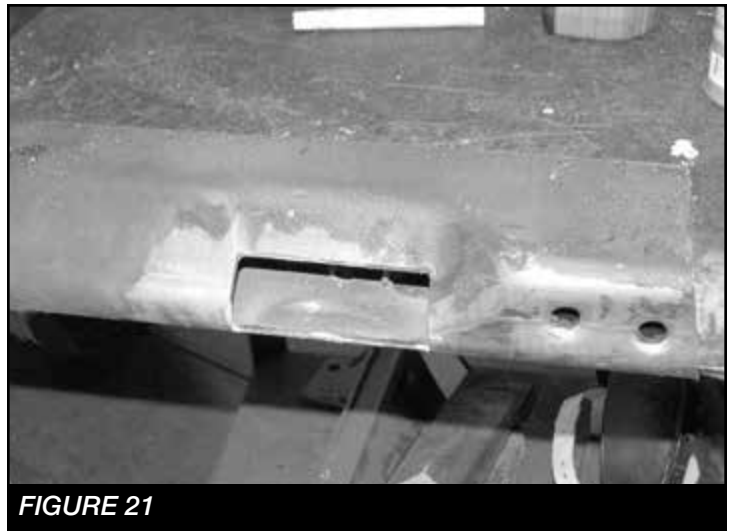

**FIGURE 19**
19. Using the passenger side differential mount, two 1/2"-13 x 4" bolts, nuts and washers, mount the passenger side of the differential. **NOTE: Run the bolts from the bottom up** . Torque the 1/2" bolts to 127 ft-lbs. **SEE FIGURE 19**